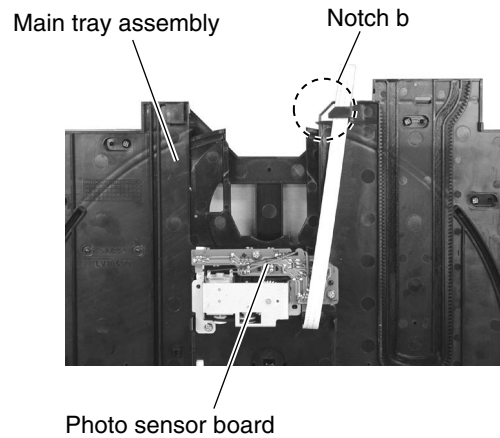

Fig.8
**(See Fig.8 to 10)**
1. Turn over the main tray assembly and pass the card wire extending from the photo sensor board through the notch **b**, in advance (Fig.8).